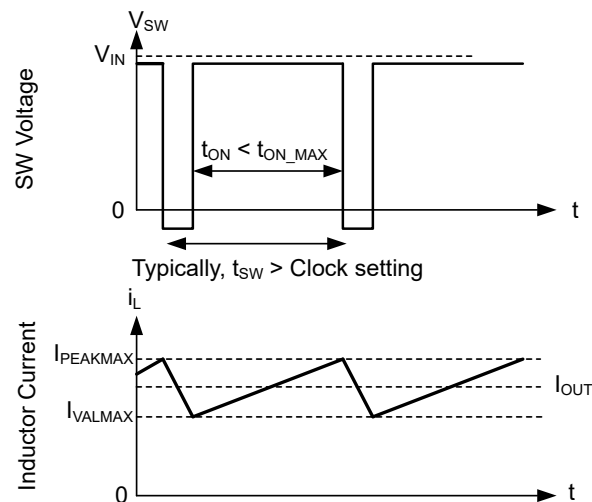

Figure 7-8. Current Limit Waveforms
When the low-side (LS) switch is turned on, the current going through it is also sensed and monitored. Like the high-side device, the low-side device has a turn-off commanded by the internal error amplifier loop. In the case of the low-side device, turn-off is prevented if the current exceeds this value, even if the oscillator normally starts a new switching cycle. Also like the high-side device, there is a limit on how high the turn-off current is allowed to be. This limit is called the low-side current limit, $I_{LS-LIMIT}$ in Figure 7-8. If the LS current limit is exceeded, the LS MOSFET stays on and the HS switch is not to be turned on. The LS switch is turned off after the LS current falls below this limit and the HS switch is turned on again as long as at least one clock period has passed since the last time the HS device has turned on.